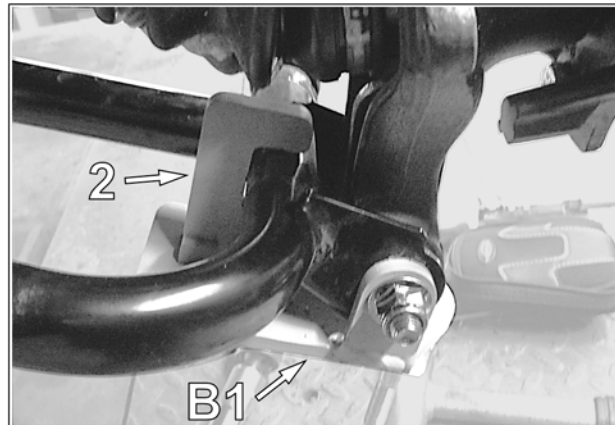

Fig. 7
6. Position rear anchor bracket (**B1**) under lower suspension arm. Make sure that the bracket's "C" shaped hook (**2**) is correctly positioned at the back of the lower arm's tube. See Fig. 7